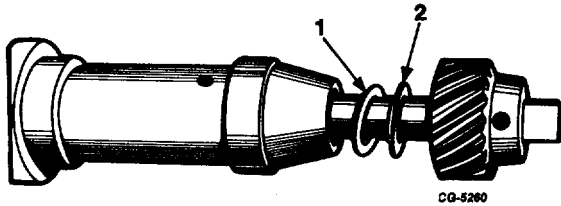

Fig. 19 Lower Thrust Washers (All Distributors Except for V-537 Engine).
7. Place distributor housing and shaft assembly in a press and press gear or thrust collar and lower thrust washers, Figures 19 and 20, from shaft.